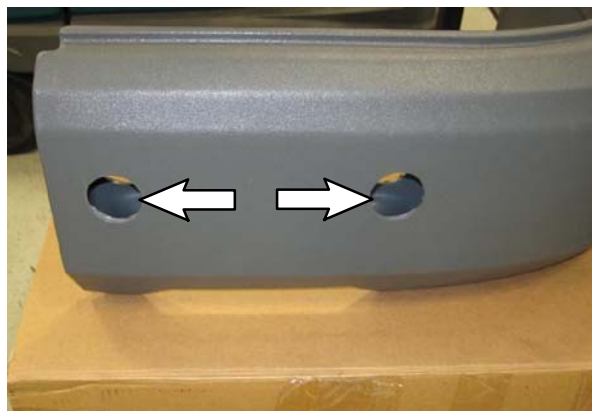

FIG. 4
6. Position the drill perpendicular to the surface of the left front bumper being cut and cut two 1 3/4" bumper tube holes through both the front and back of the left front bumper. (Fig. 3 / Fig. 4)